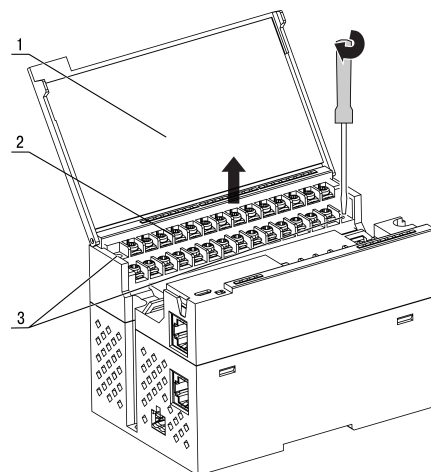

Fig. 5.2 Remove terminal block
Device replacement (Fig. 5.2):
Plug-in terminal block for power supply and removable terminal block for input connections enable quick and easy replacement of the device (see Fig. 5.2).
2. Remove the terminal blocks without disconnecting the connected wires (Fig. 5.2)